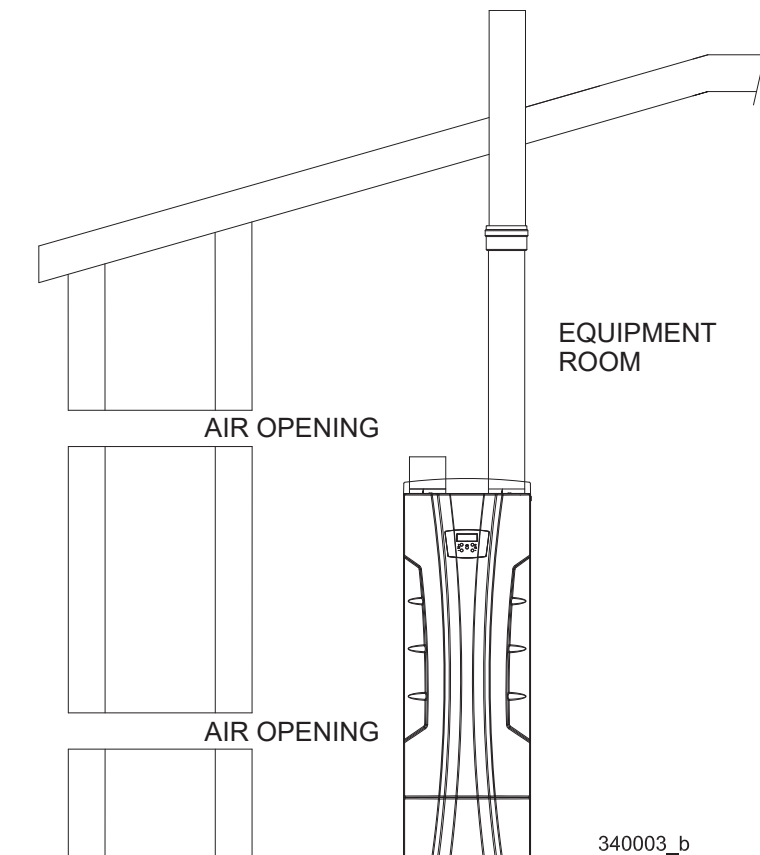

Figure 5-2 Combustion Air through Ducts
2.- If combustion and ventilation air is taken from the outdoors using a duct to deliver the air to the equipment room, each of the two openings should be sized based on a minimum free area of one square inch per 2000 Btu/hr (11 cm^2 per kW) of input (see Fig. 5-2).